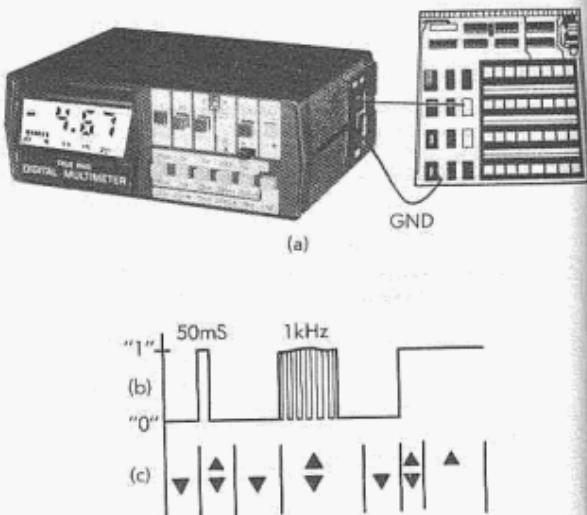

FIGURE 6-2.
6.4.3 As an example of the logic probe function of the 467, consider a digital circuit putting out a string of pulses with various repetition rates. The circuit uses CMOS, with a "1" being +15 VDC and a "0" being circuit ground. The test set-up and pulse train are shown in Figures 6.2 (a) and (b).
6.4.4 To analyze the logic waveform shown in Figure 6.2 (b):
(c) The logic waveform in Figure 6.2 (b) will produce the display shown in Figure 6.2 (c). Note that the reading in the numerical display is meaningless. Also note that the pulse stretcher circuit in the 467 will keep either the "▲" or the "▼" display element on for approximately 100 mS after the logic state changes. This enables the operator to detect pulses as short as 50 μ s in duration. This also means, however, that detected changes in state slightly lag the actual changes, as shown in Figure 6.2 (c).